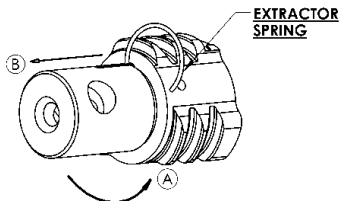
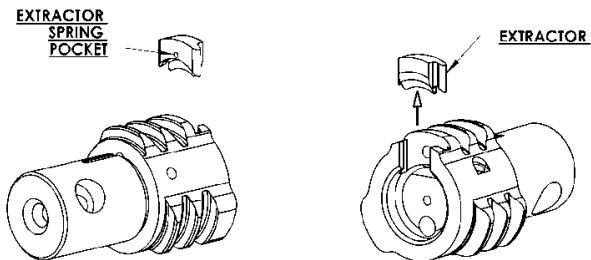
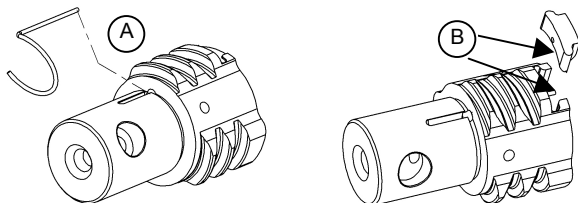

Figure 27.
Figure 28.
Figure 29.
3. Using a 1/16" punch, or similar pointed object, gently lift the end of the extractor spring and unwrap it counterclockwise from the bolt. With the circular part of the spring up and fully out of the slot in the bolt, withdraw the spring. (Figure 27.) Next slide the extractor out of the slot in the bolt. (Figure 28.)
The installation of the extractor is in reverse order of its removal. Insert the straight leg of the spring into the slot (*Figure 29, Step A.*) and wrap the circular part around the bolt. Ensure the end of the spring enters the extractor pocket. Extractor must be properly oriented where the curve of the extractor edge matched the bolt face. (*Figure 28, Step B.*)